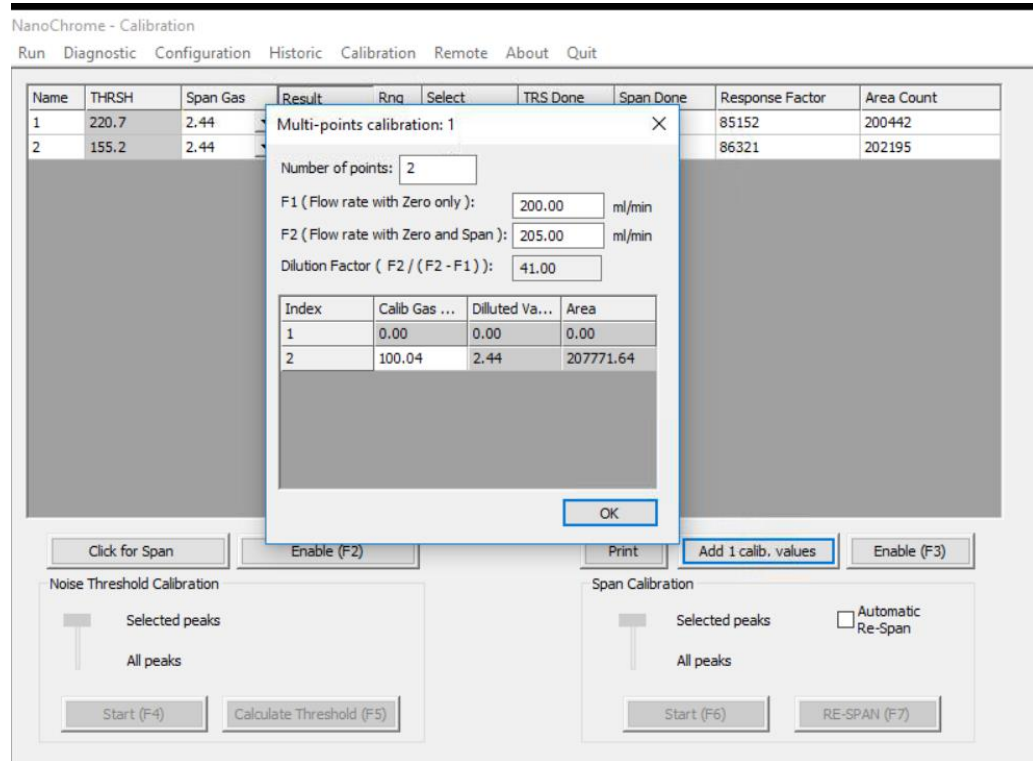

Figure 37 : Calibration-Span menu
4. Click on the **Add “peak name” calib values** button and a pop-up menu will appear (see Figure 37).